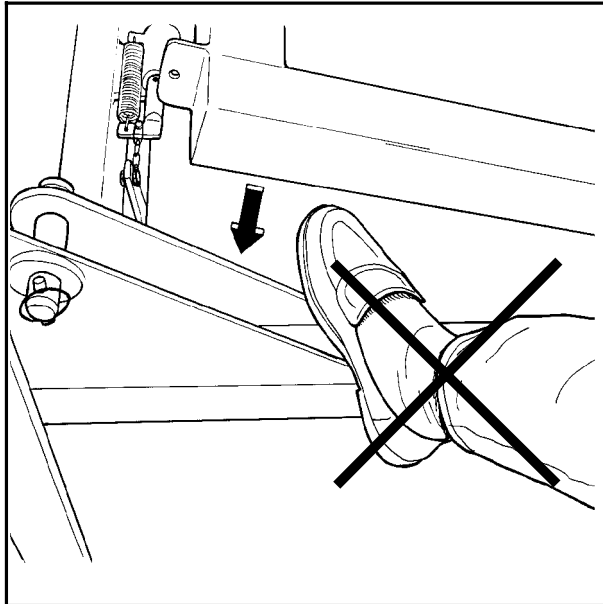

Fig. 2-2
2. When the wrapping of a bale is complete and tipped off the machine, the turntable has to be tipped back and locked before wrapping next bale. When the middle frame with turntable is lowered, there is a squeeze danger between the middle frame and the main frame on both sides and in the back end of the machine. Keep therefor fingers and feet in safe distance. (Fig. 2-2).